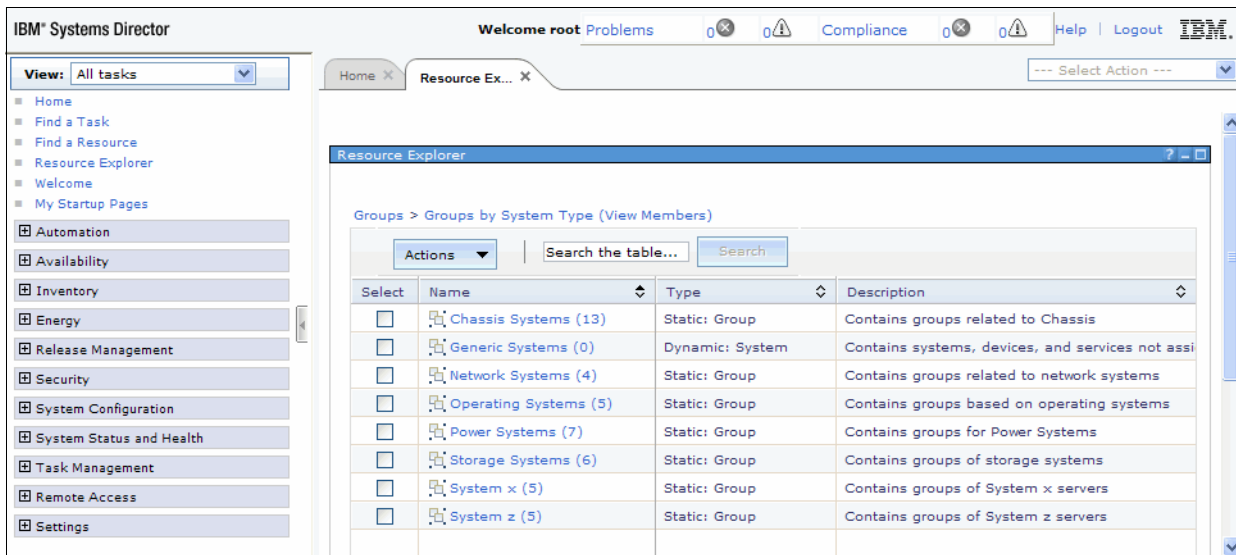

Figure 5-33 Resource Explorer: Groups by System Type
- ▶ In the next view, select **Power Systems** servers, as shown in Figure 5-33.